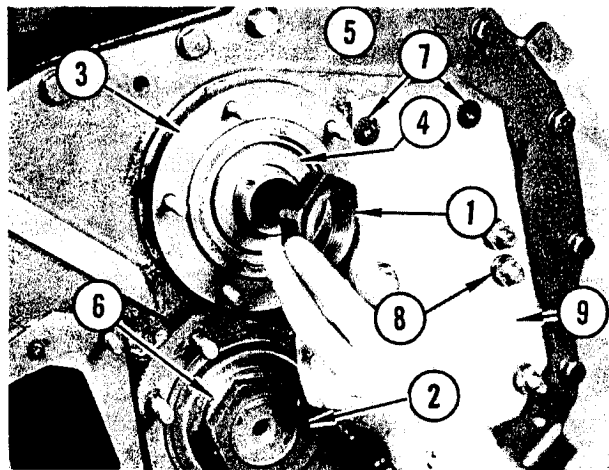

FIGURE 77. COVER REMOVAL
Refer to Figure 77 and follow the numerical sequence for removing the following parts; upper shaft locknut (1), lower shaft locknut (2), seal retainer (3) with spacer (4) and oil seal (5), and spacer (6) from lower shaft. Remove two flat head capscrews (7), four stud nuts and lockwashers (8) and remove cover plate (9) with gasket. NOTE: If transmission is equipped with creeper